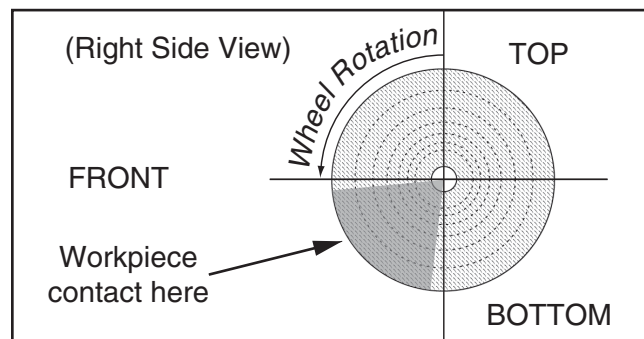

Figure 13. Workpiece contact zone.
- To begin buffing, slowly feed workpiece into buffing wheel workpiece contact zone (see **Figure 13**). Contacting workpiece on areas outside of the correct area may flip workpiece out of your hands. Hold workpiece tightly at all times while buffing. Placing one hand near contact point will give you better control.